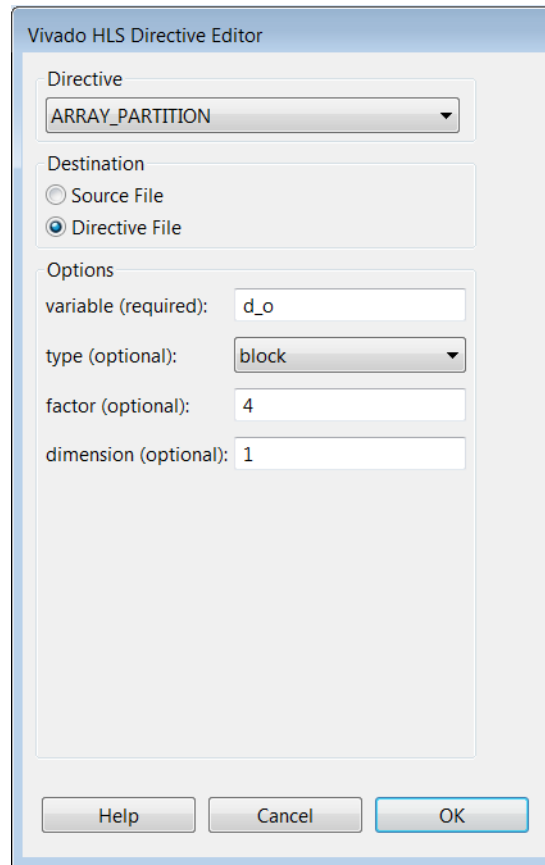

Figure 4-22: Directives Editor for Partitioning Array d_o
- d. With the Vivado HLS Directive Editor as shown in Figure 4-22, click **OK**.